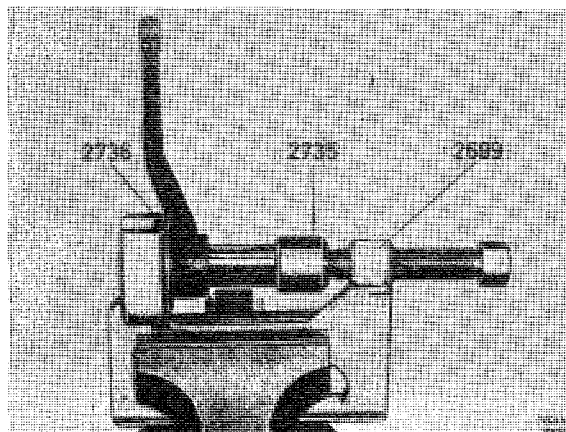

Fig. 6-57. Installing rubber bushing, relay arm
5. Turn the relay arm and press in the new bushing with tools 2699+2736 and drift 2735 (see Fig. 6-57).
6. Place the relay arm in position, install the washer (7) and the nut. Tighten the nut to a torque of 70–85 Nm (7.0–8.5 kpm=50–60 lbf).